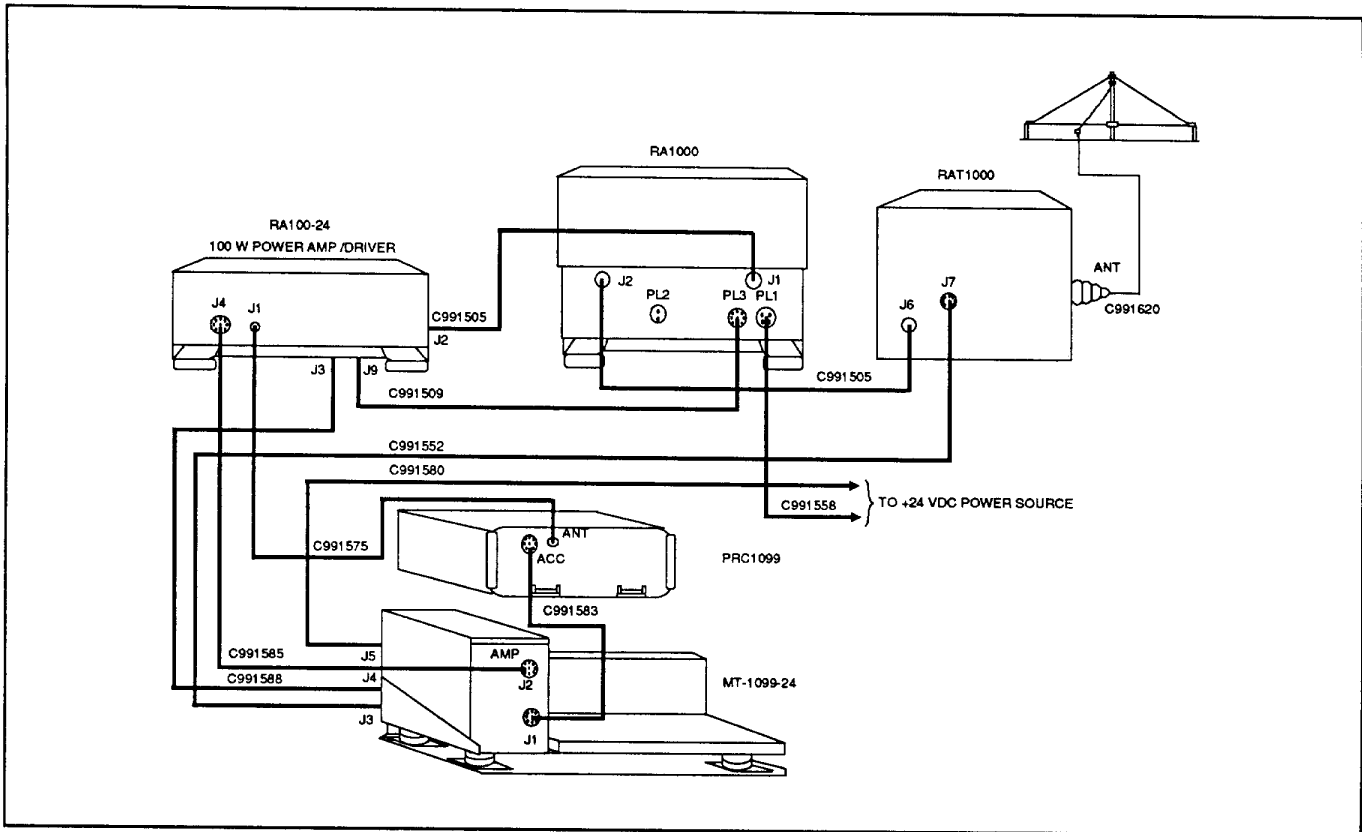

FIGURE B-11.
6. Hook up the correct cables as shown in Figure B-11.
a. The PRC1099 can be used in a mobile configuration with the RA1000 power amplifier as shown in Figure B-11.
Referring to Figure B-11, cable C991580 going between the vehicular power source and the MT-1099 must be replaced with cable C991614; this cable connects the MT-1099 to the UPS100.
Also in Figure B-11, cable C991558 going between the vehicular power source and the RA1000 must be replaced with cable C991508; this cable connects the RA1000 to the UPS1000.